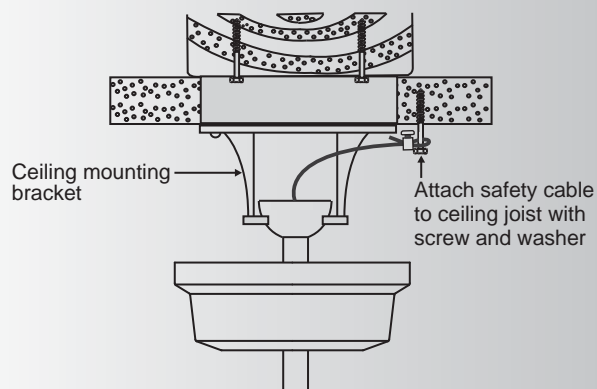

Fig. 11
**Step 1.** Attach the provided wood screw and washer to the ceiling joist next to the mounting bracket but do not tighten. (Fig. 11)